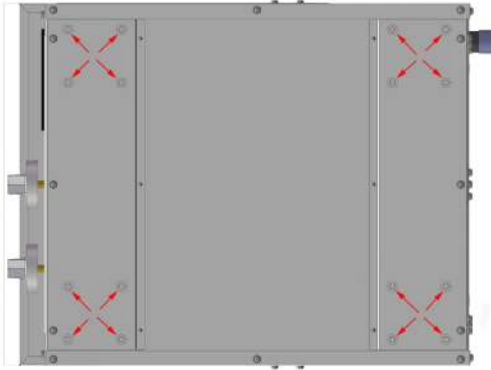

Fig. 1
2. Turn chassis upside down and locate the leg plate to align the four screw holes (Fig. 1)